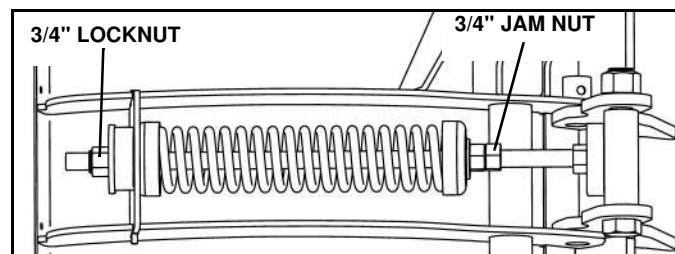

Figure 2-23
1. Loosen the 3/4" locknut on the top of the trip rod and the 3/4" jam nut below the lower spring cup. (See Figure 2-23)
3. Tighten the 3/4" jam nut against the adjustment nut to secure the 14" spring cup spacing. (See Figure 2-23)